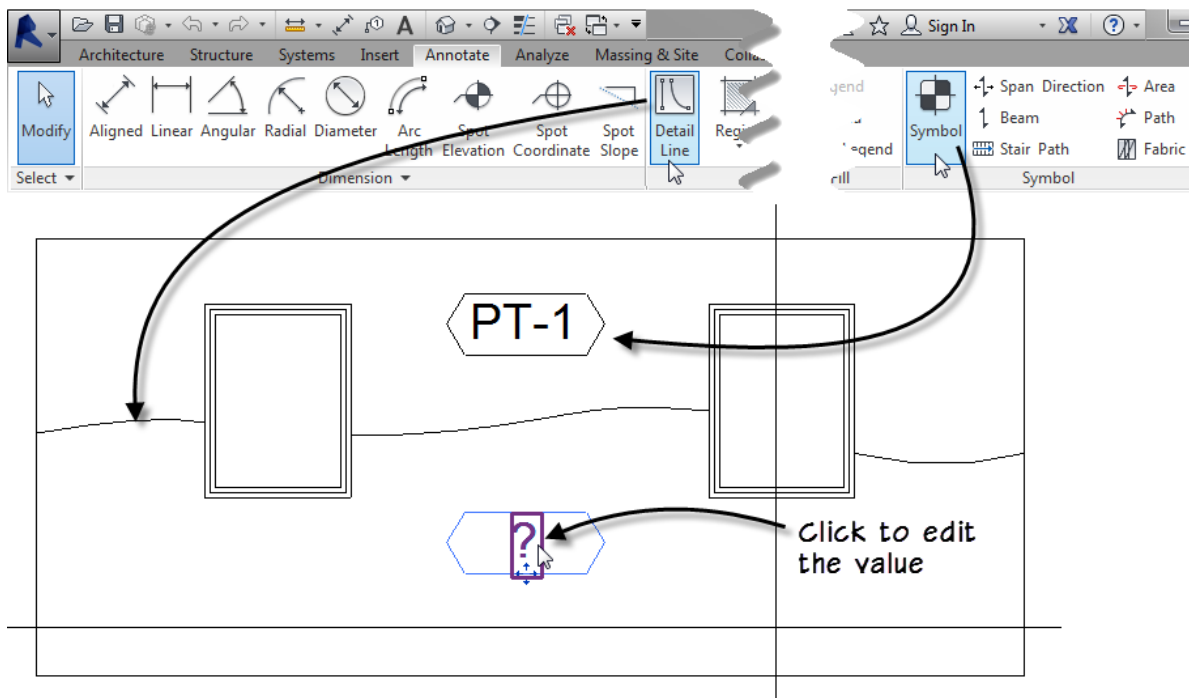

FIGURE 22 – ADD SYMBOLS AND EDIT THE VALUES ONSCREEN
11. On the Annotate tab, click the Symbol tool. Use the Detail Line tool to draw any finish boundaries as required (see Figure 22).